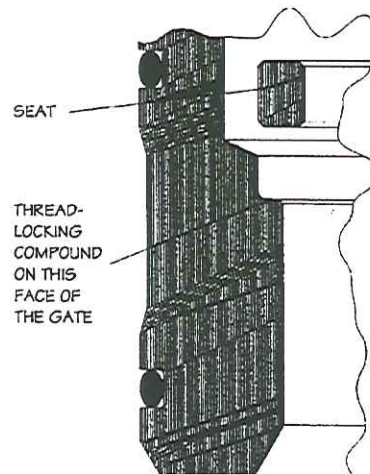

Figure 13b. Gate seat installation detail
- b. If the gate seat is not properly installed, knock it out of the gate. Clean the seat and the gate seat face. Apply a thin layer of a thread-locking compound to the gate seat face and re-install the seat. Tap the seat into place within the gate seat. Remove all excess compound from the gate ID and seat ball-sealing face. Refer to **Figure 13b**.